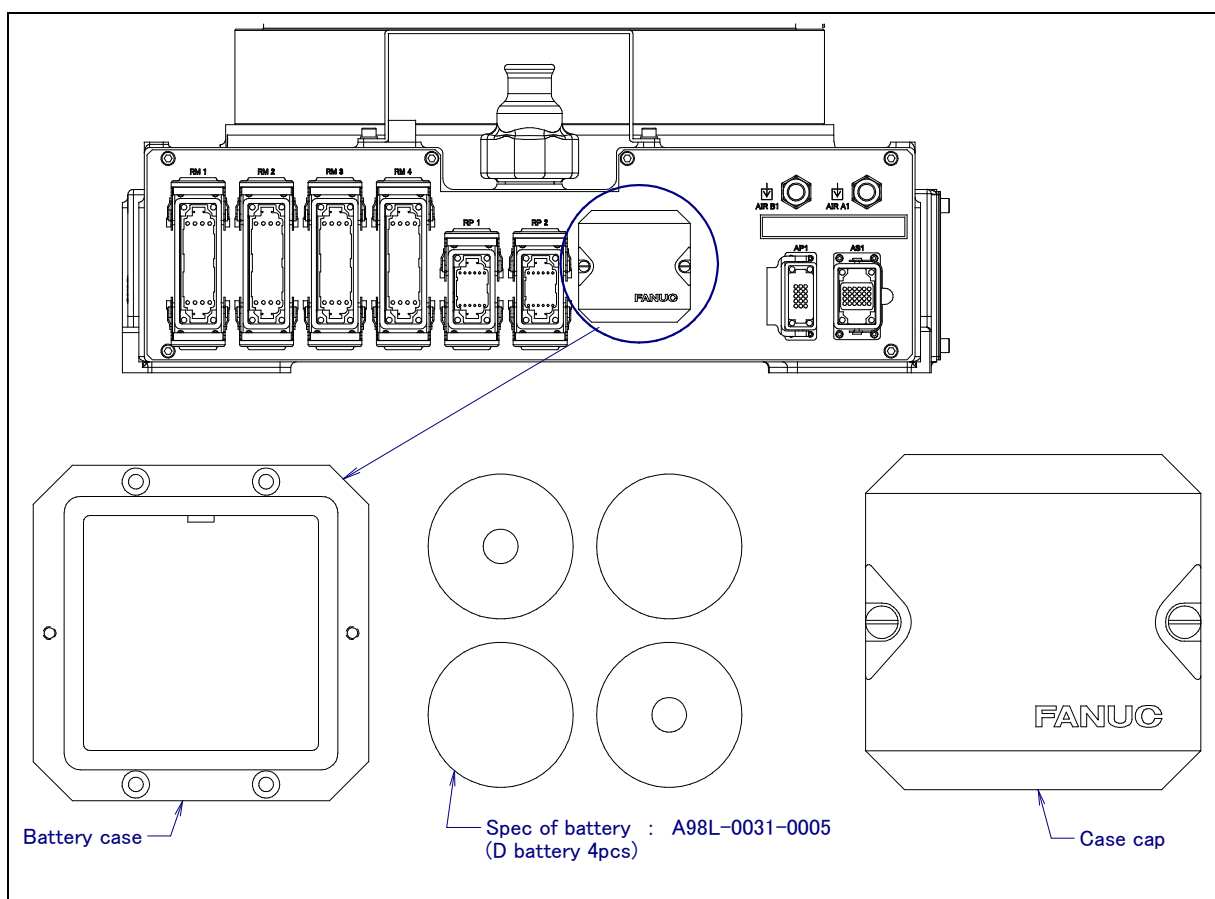

Fig. 7.2.2 Replacing the battery
- 2 Remove the battery case cap. (Fig. 7.2.2)